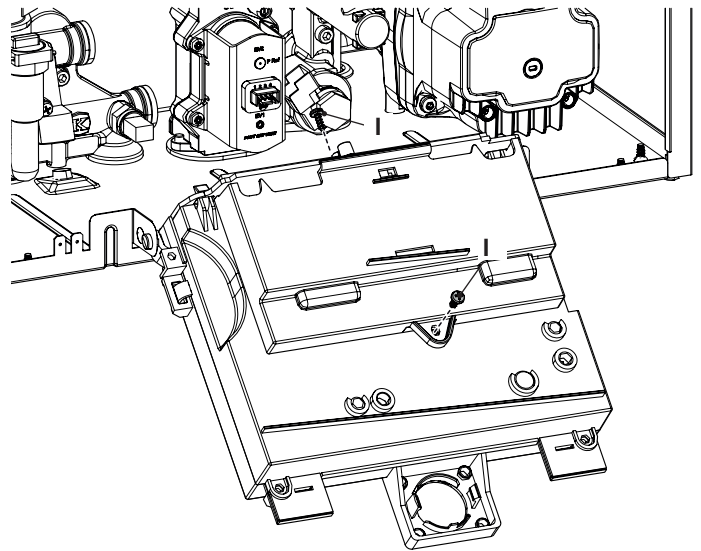

Figure 2.7
- 5 Unscrew the screw "I" (Figure 2.7).